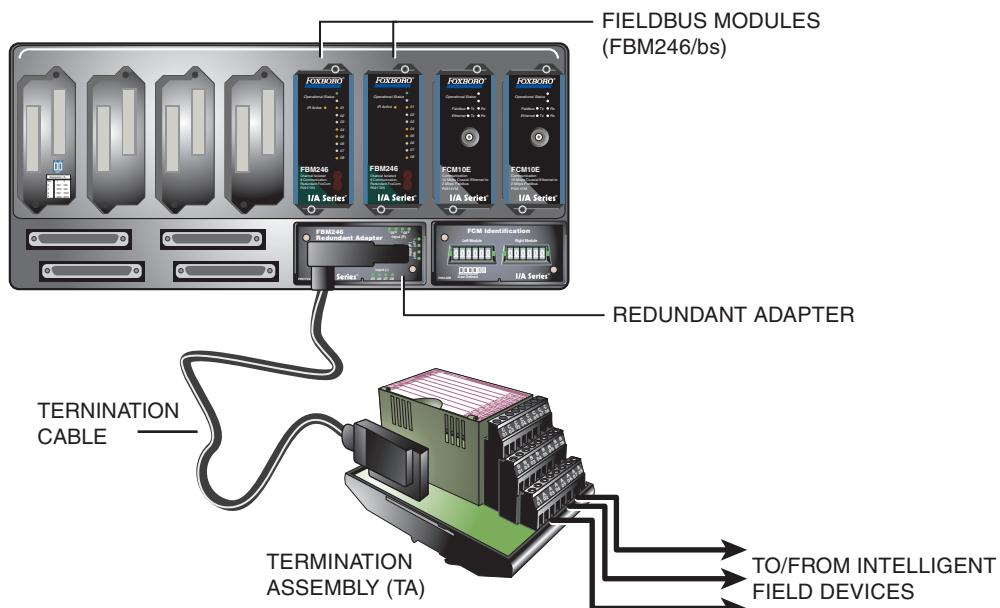

Figure 1. Redundant I/O Configuration
Each input provides internal isolated power and digital communication capabilities to an Invensys Intelligent Field Device. Each channel communicates over a single twisted pair of wires and each channel of the FBM246/246b is channel isolated. The modules also allow the use of an external power supply to power the Intelligent Field Device. (The use of an external power supply common to two or more loops requires the use of a Cable Balun Module to maintain digital communication line balance.). A redundant pair of the modules combine to provide redundancy at the Fieldbus Module (FBM) level, with field I/O wired to one common termination assembly (see Figure 1).
Redundant modules must be located in adjacent positions on the baseplate (positions 1 and 2, 3 and 4, 5 and 6, or 7 and 8). To achieve redundancy, a redundant adapter module is placed on the two adjacent baseplate termination cable connectors to provide a single termination cable connection (see Figure 1). A single termination cable connects from the redundant adapter to the associated termination assembly (TA).
A redundant adapter connects the redundant FBMs baseplate input/output connectors together. The redundant adapter provides a single termination connection to a single TA (see Figure 1).